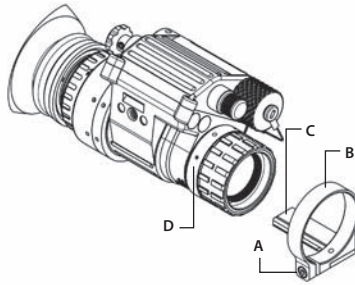
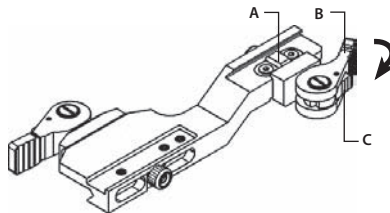

Figure 3-19. MOUNTING OPTIONAL BRACKET TO THE MUNVM
Figure 3-20. CLAMPING DEVICE ON THE MOUNT TOP
1. Loosen the bracket clamp screw (A, Figure 3-19).
2. Put the bracket clamp (B) onto infinity focusing stop ring (D) of the MUNVM objective lens.
3. Fix the MUNVM in the bracket clamp (B) by tightening the screw (A).
4. To unlock the clamping device (located on top of the QRM), see Figure 3-20. While pushing the lever holder (C, Figure 3-20) down, turn the lever (B, Figure 3-20) towards the arrow (forward).
5. Install the MUNVM on the mount so that the stop (A, Figure 3-20) is inserted into the transverse slot of the NVM rail.
6. Secure the MUNVM to the mount by turning the lever (B) to the locked position, as shown in Figure 3-20.
- (3) Align the headmount/ helmet mount adapter's latch to the headmount socket (Figure 3-19). Hold the latch lever down while installing the monocular into the headmount socket
(4) To set your eye relief, press down on the eye relief adjustment (Figure 3-19). Move the monocular back towards your non-dominant eye until the eyecup is comfortably sealed around the eye.
(5) Turn the monocular ON.